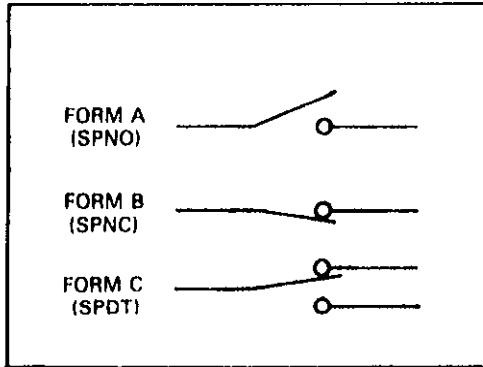

Figure 2-3. Switch Terminology
1. Form A is a single pole normally open (SPNO) switch. Refer to Figure 2-3. Example: A 2-pole switch normally open is classified as a 2 Form A.
2. Form B is similar to Form A except that its contacts are normally closed. Refer to Figure 2-3. Example: A 2-pole switch that is normally closed is classified as a 2 Form B.
3. Form C is shown in Figure 2-3 as a single pole double throw switch. It could also be a multiple switch such as a 2-pole. This would be classified as a 2 Form C.